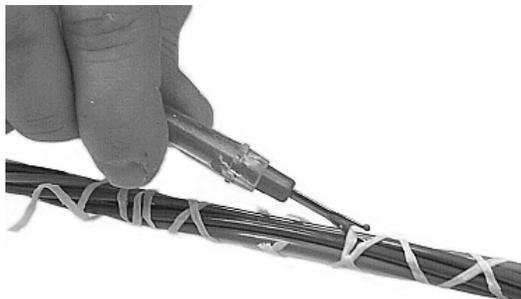

Figure 35 - Remove the binder threads and water blocking tape.
7.11 Unwrap and remove the core binder thread and water blocking tape (Figure 35).